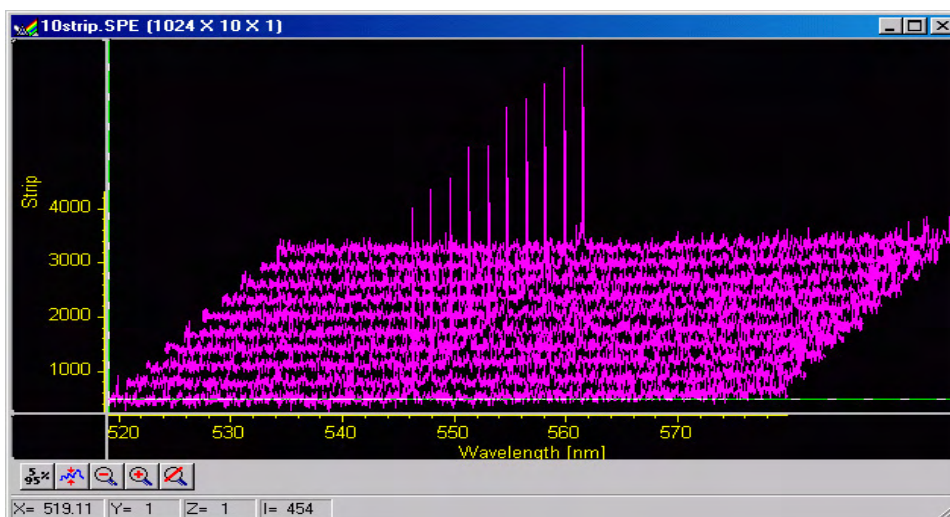

Figure 79. 3D Image display of 10 data strips
- If there are at least three data strips but less than eleven, the data will be plotted as a 3D Graph as shown in Figure 79.